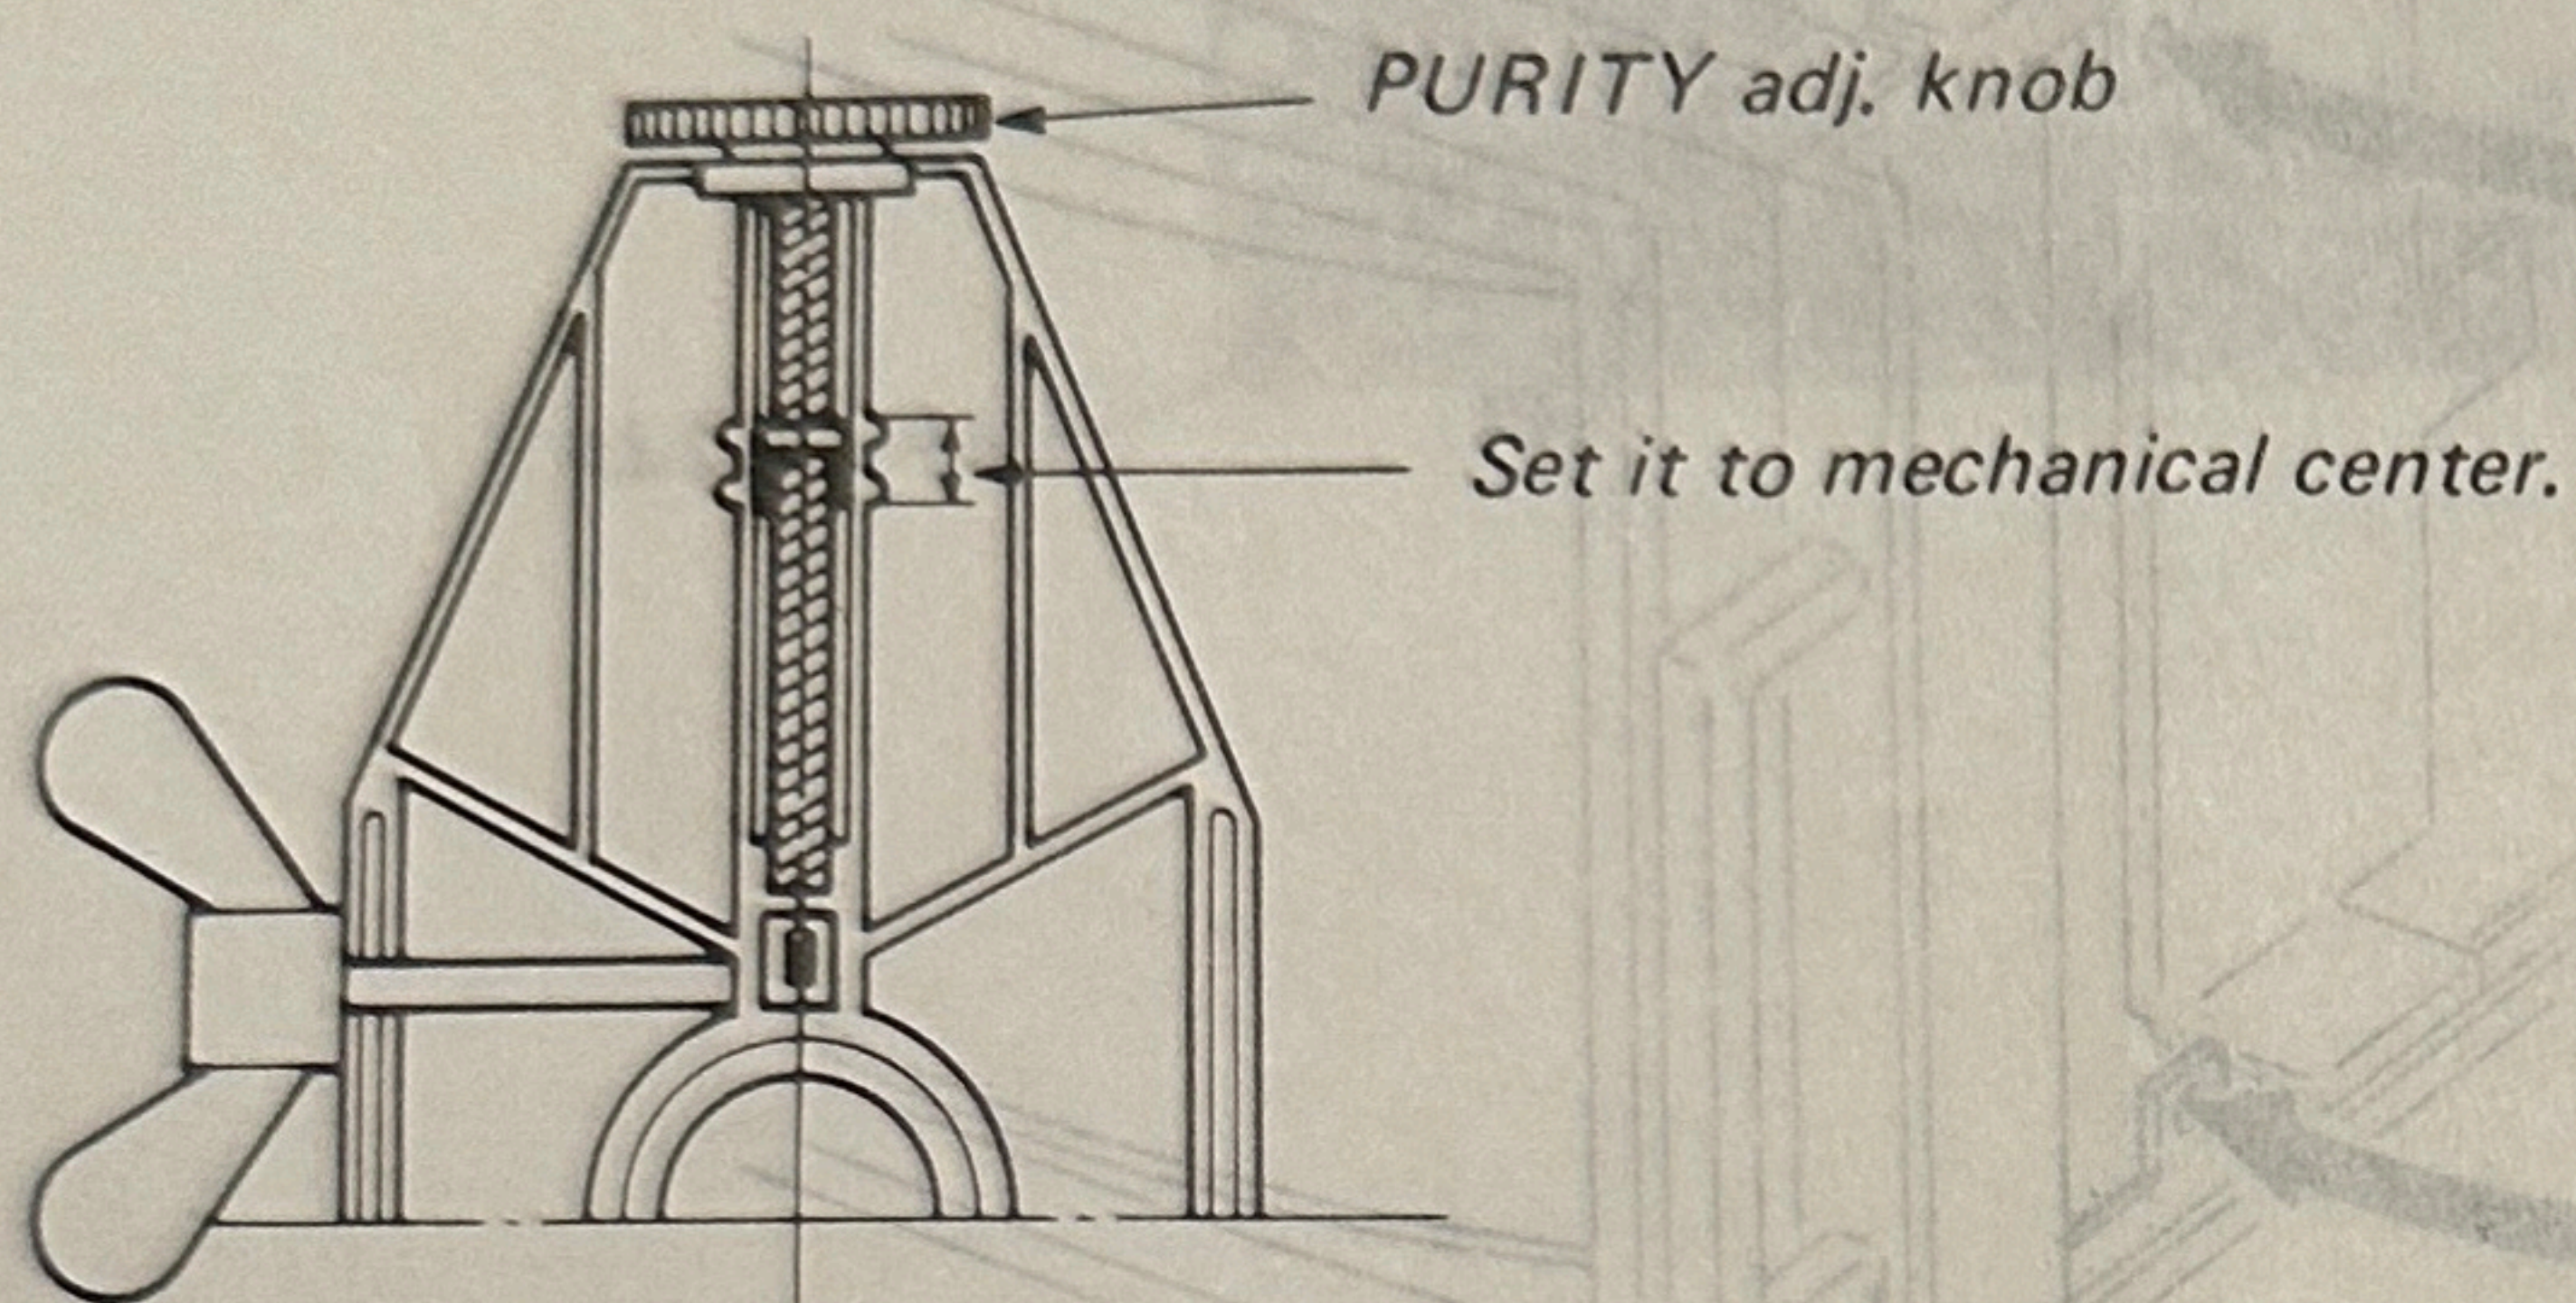

Fig. 1.
3. Set the purity control at mechanical center. (Refer to Fig. 1.)